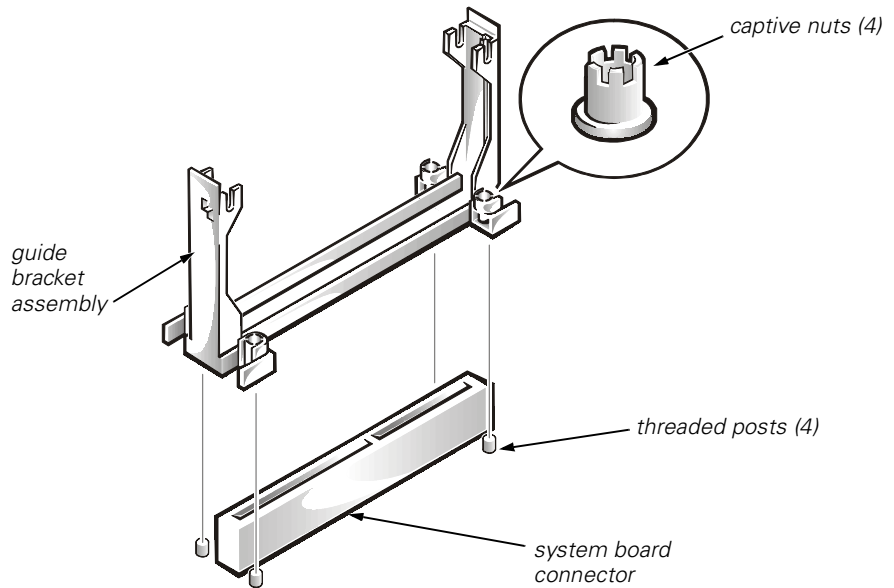

Figure 1-8. Installing the New Guide Bracket Assembly
1. Position the guide bracket over the four threaded posts (see Figure 1-8).